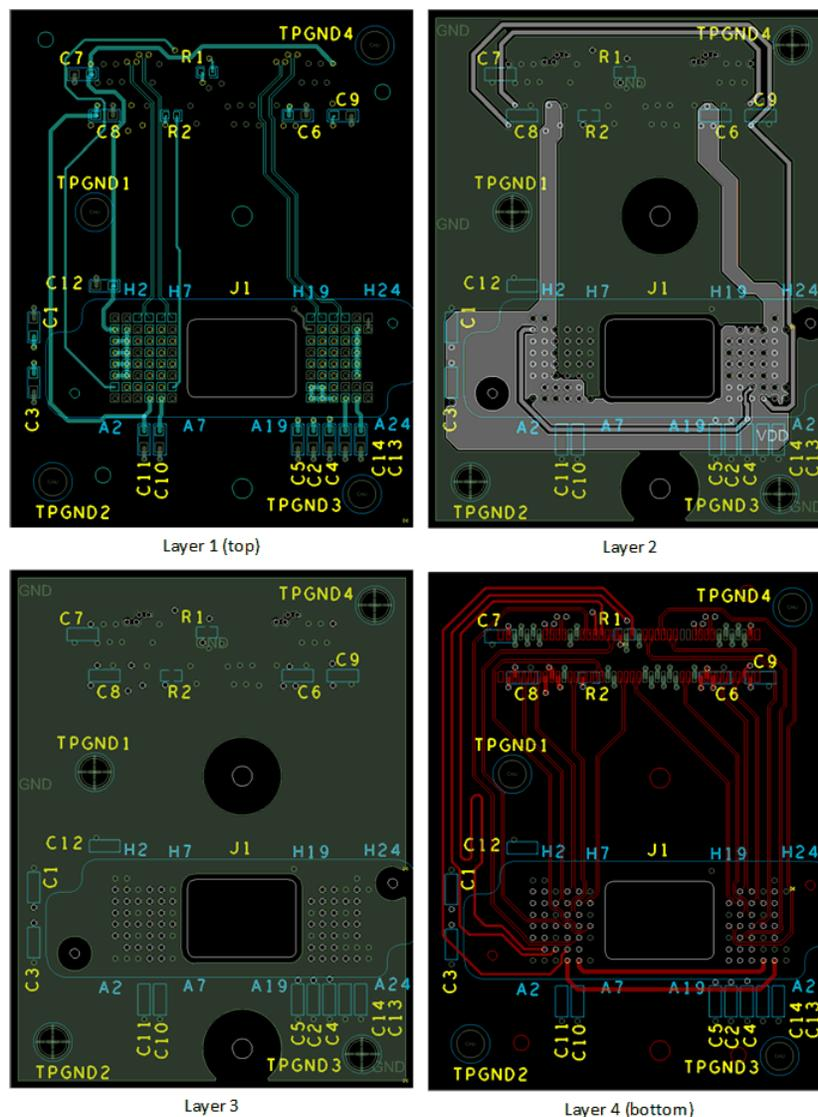

Figure 9. Power Supply Connections
- Minimize vias, layer changes, and turns for the HS bus signals. Refer to Figure 9.
- Minimum of two 220-nF (35 V) capacitors - one close to V_{BIAS} pin. Capacitors C10 and C14 in Figure 9.
- Minimum of two 220-nF (35 V) capacitors - one close to each V_{RST} pin. Capacitors C11 and C13 in Figure 9.
- Minimum of two 220-nF (35 V) capacitors - one close to each V_{OFS} pin. Capacitors C4 and C12 in Figure 9.
- Minimum of four 220-nF (10 V) capacitors - two close to each side of the DMD. Capacitors C1, C3, C2, and C5 in Figure 9.